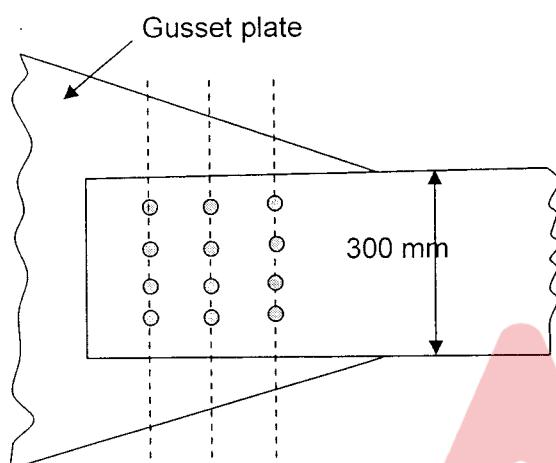

Fig. 5b) Zig-zag riveting
- Zig-zag riveting is done as shown in Fig. 5b